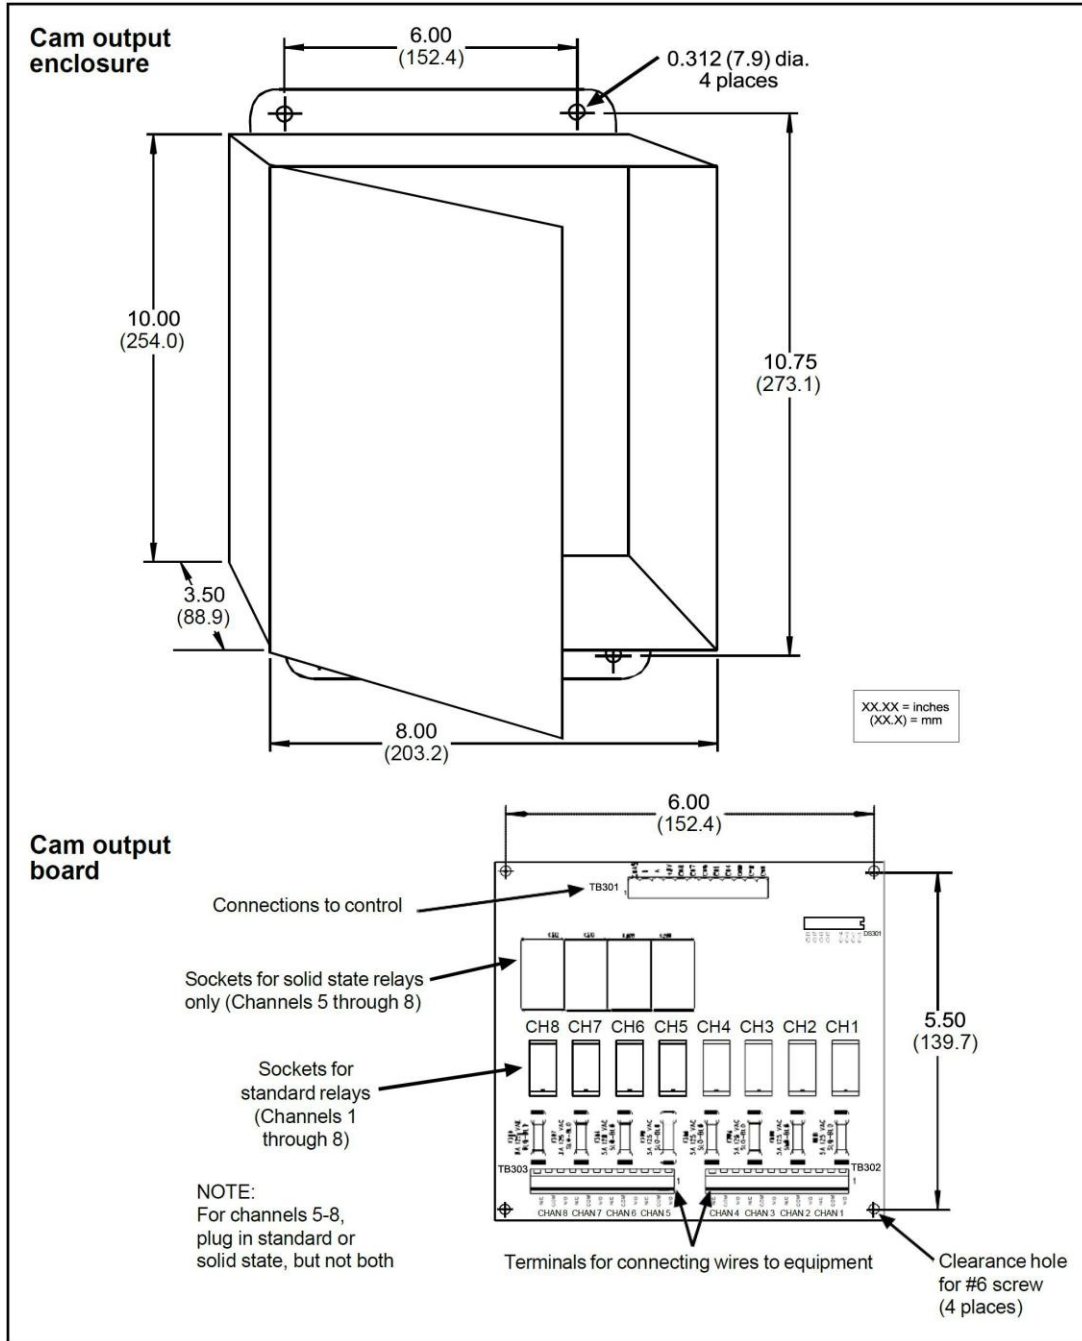

Figure 2-16. Cam Output Enclosure and Board: Mounting Dimensions
2. Mount the cam output assembly, referring to Figure 2-16, below, for mounting dimensions. Use the holes on the flanges to mount the cam output enclosure or the corner holes to mount the cam output board.
- Remove the TB2 through TB5 connectors (for cam channel 1 through cam channel 8) from the cam output board and wire them as follows, referring to Figure 2-16, page 84: